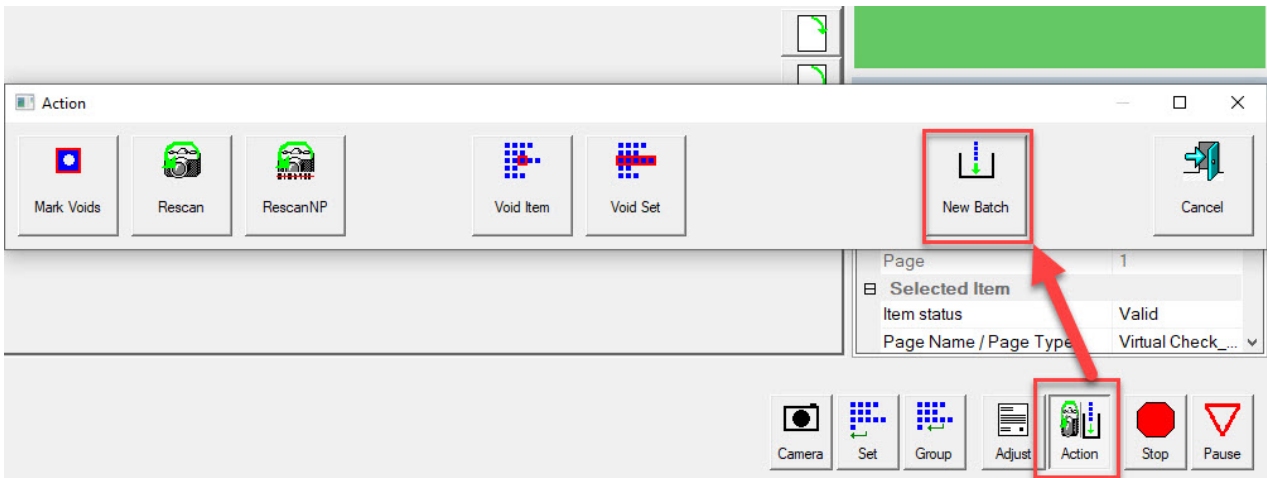

Figure 4-12: Action - New Batch
- While the job is running, click the **Action** button and select the **New Batch** button to start a new batch with the next scanned item (Figure 4-12).